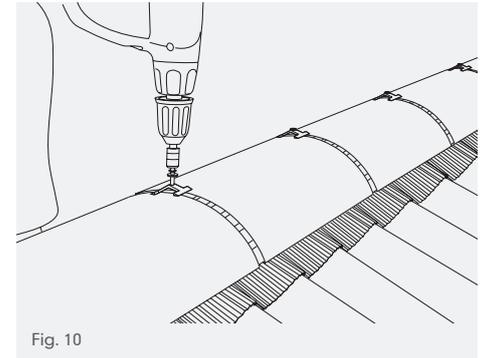

Fig. 10
- 9 Push ridge tile firmly into position and secure ridge union assembly to ridge batten by fixing screw through hole in union clamp using a pozidrive No. 2 screw bit (Fig. 10).